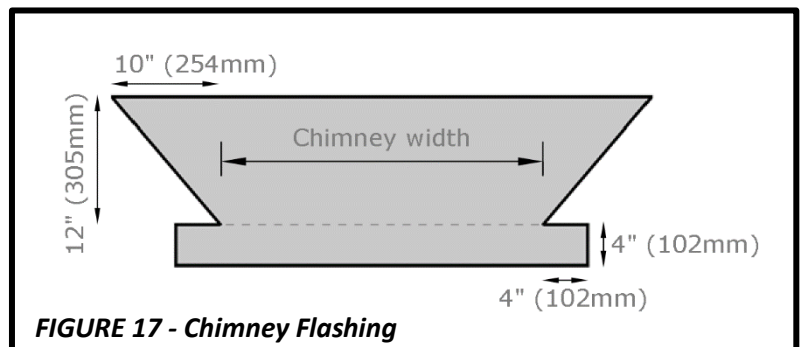

FIGURE 17 - Chimney Flashing
- Install an apron flashing on the front of the chimney. See **Figure 17** for recommended dimensions. Install step flashing along the sides. For further details see the **VERTICAL WALL FLASHINGS** section.